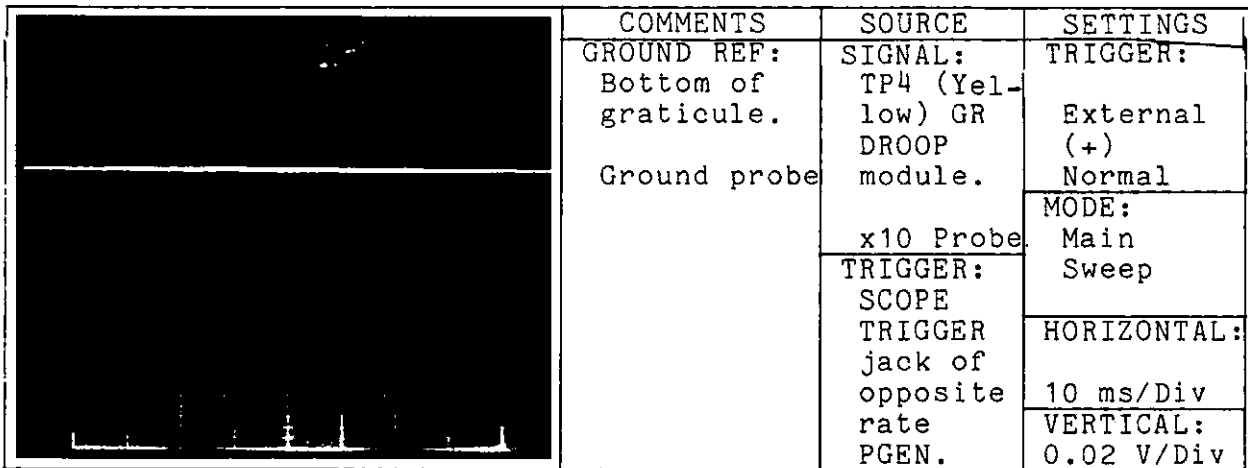

Figure 2.24. DC Reference Level
f. Record the DC Reference level (see Figure 2.24). This DC reference level should be in the range of +0.9 to 1.1VDC.
h. Do not readjust R12 again. Adjust R1 clockwise until the ladder waveform just disappears (DC level, signal) see Figure 2.24.